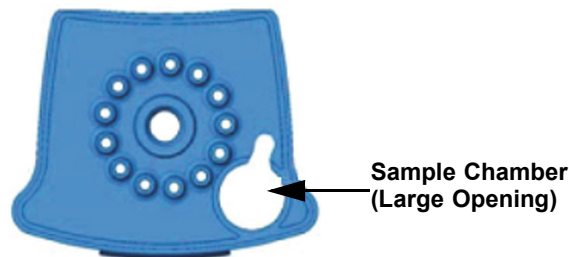

Figure 11. Xpert Xpress SARS-CoV-2/Flu/RSV Cartridge (Top View)
11. To transfer the sample to the cartridge, squeeze the top bulb of the pipette completely again until it is fully flat to empty the contents of the pipette (300 µL) into the large opening (Sample Chamber) in the cartridge shown in Figure 11. Some liquid may remain in the overflow reservoir. Dispose of the used pipette.